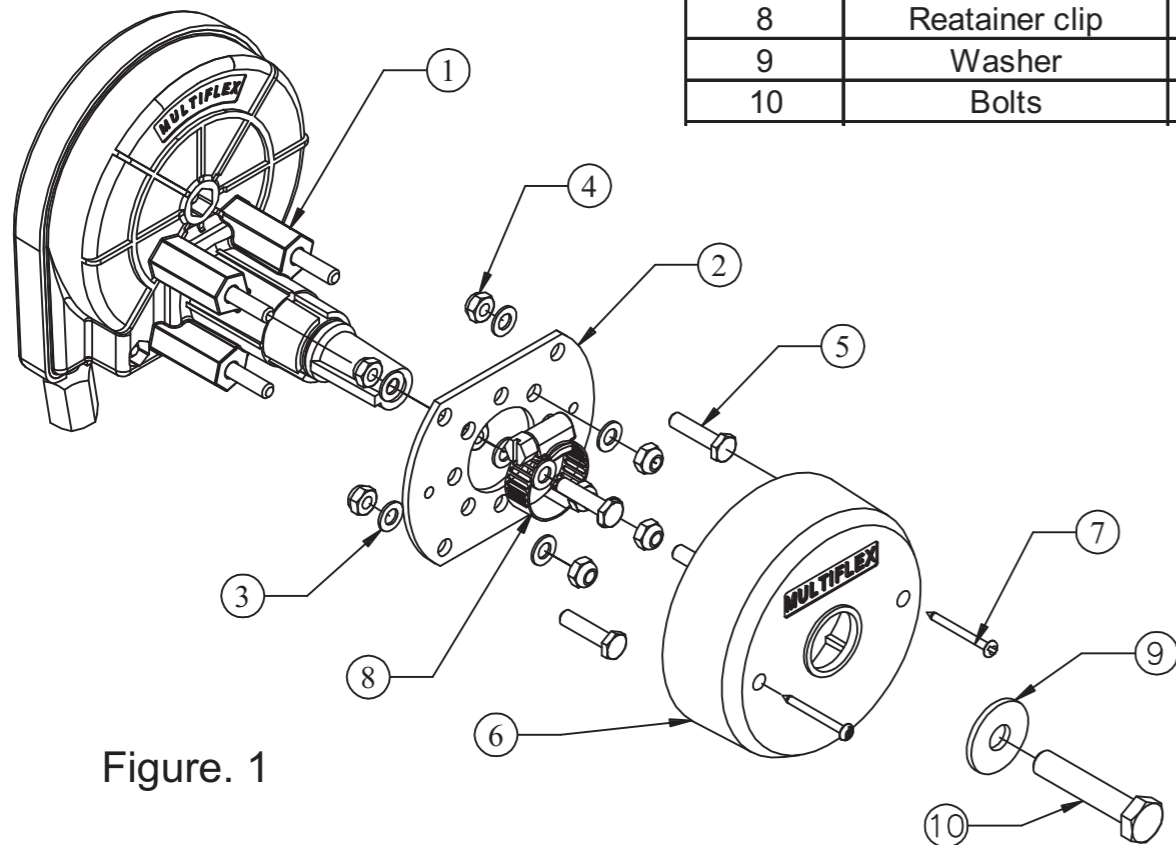

Figure. 1
- STEERING HELM Fig.1 (Sr.no.1)
- MOUNTING BRACKET Fig.1 (Sr.no.2)
- BEZEL CUP Fig.1 (Sr.no.6)